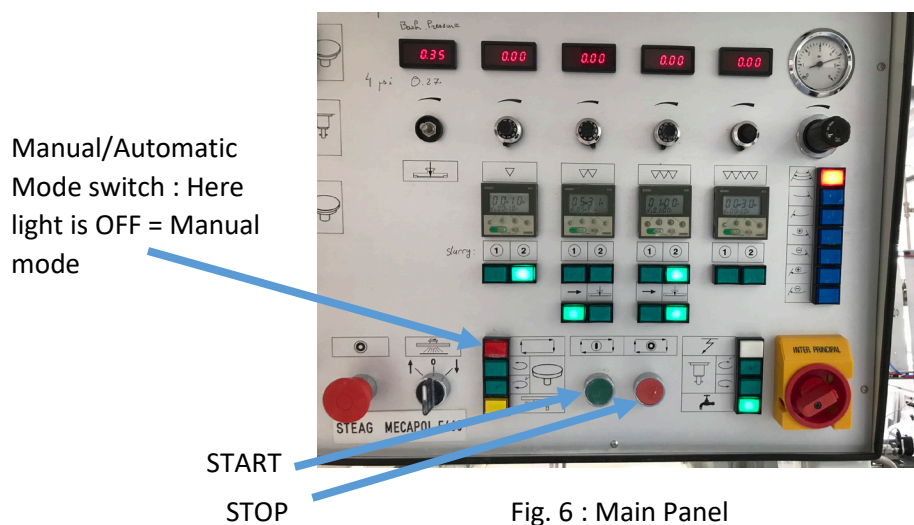

Fig. 6 : Main Panel
- f. Make sure that the machine is in manual mode (Fig. 6). The red square button should be off.